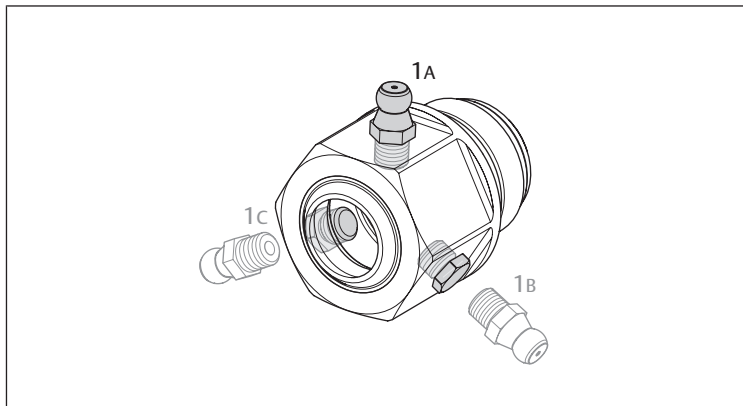

Fig. 5: Possible lube nipple positions
- Check the position of the lube nipple (see → Fig. 5).